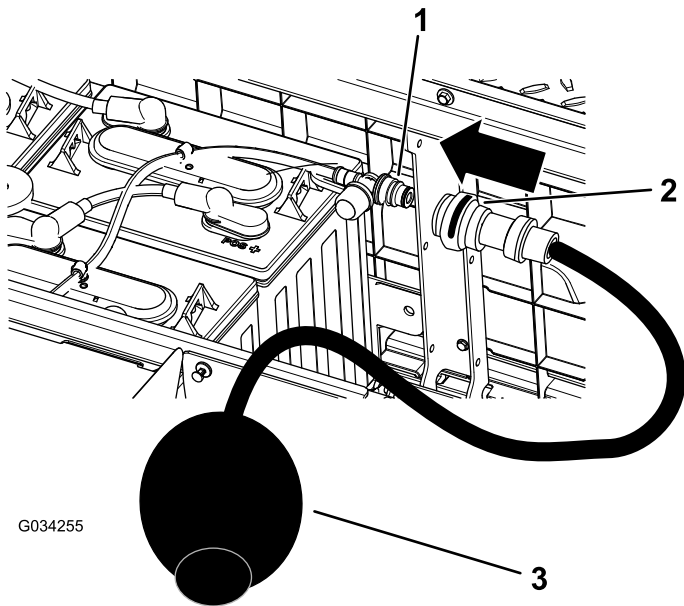

Figure 37
4. Connect your Toro water hand pump to the water-fill port (Figure 37).